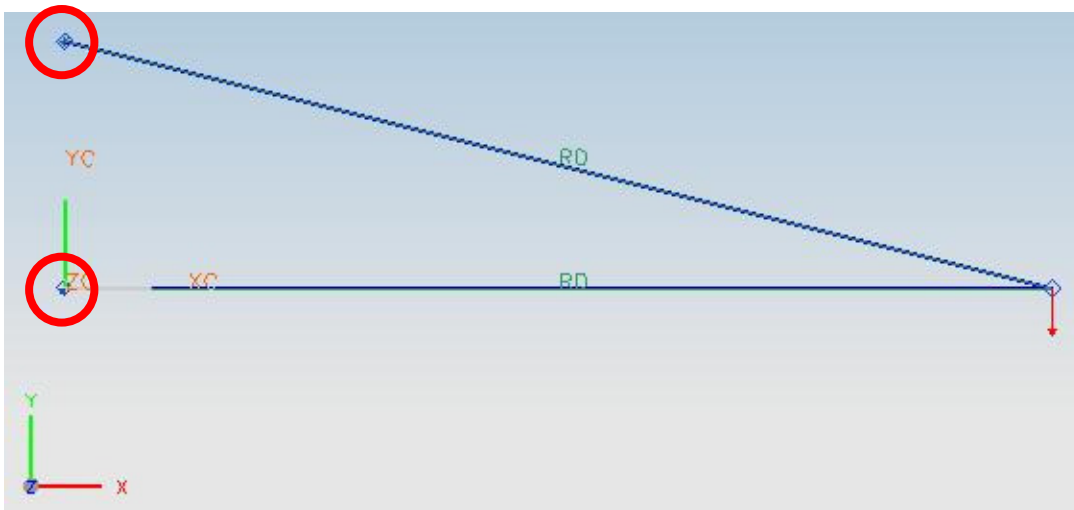

Figure 6. Two Rod Elements with Restraints on Left and Load on Right.
- b) With the “Fixed Constraint” dialog showing, select the nodes at the left ends of the two rod elements (see Figure 6.). The nodes will be difficult to pick because it will try to pick the elements. When this happens set the selection filter to “Node” or hover the mouse over the node, press the right mouse button, select “Select from List...”, and select in the drop down menu. It will show a list of things you can pick. Select the node from this list.
- b) With the “Force” dialog showing, select the node at the right end of the two rod elements (see Figure 6.). Again, set the filter to “Node” or use “Select from List...” if the node is difficult to pick.